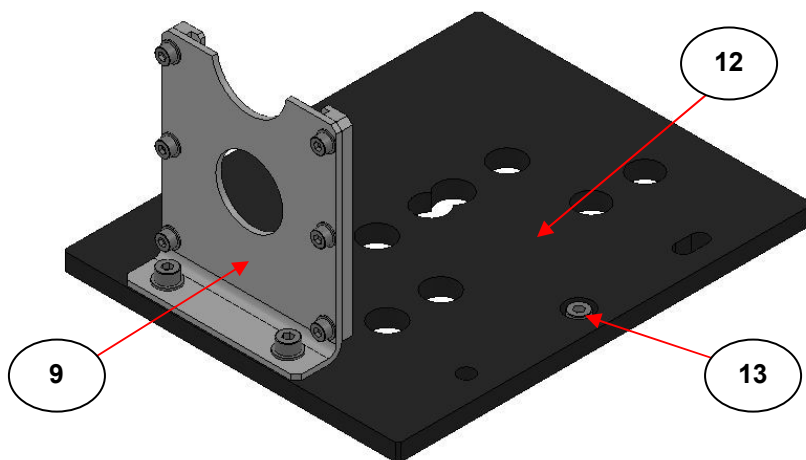

Fig 3. P/N GS16301 3" x 2" Slide Mount Adapter Baseplate
Repositioning of the 3" x 2" slide mount (9) can only be done for baseplate P/N GS16300. The slide mount (9) on baseplate P/N GS16301 (see Fig 3.) must stay in its fixed position to allow for the P/N GS11000 25 Reflection ATR Accessory to be installed and operate correctly. The hole cut outs in the baseplate (12) are specifically to accommodate the 25 Reflection ATR Accessory P/N GS11000 and there is a cap head screw (13) used in place of the thumbscrew fixing (3) which secures the baseplate (12) to a Benchmark™ baseplate.